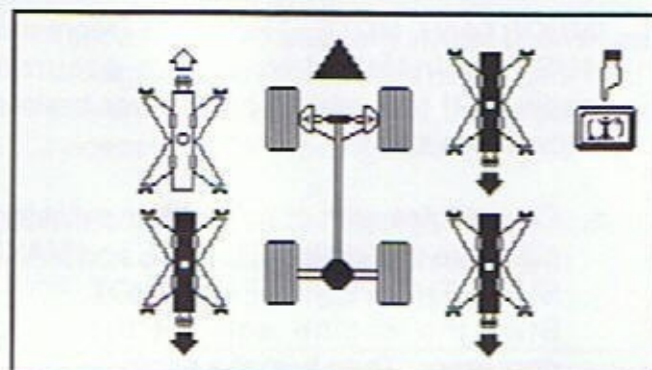

Figure 2-18
- C. The screen shown in Figure 2-18 will appear in display.